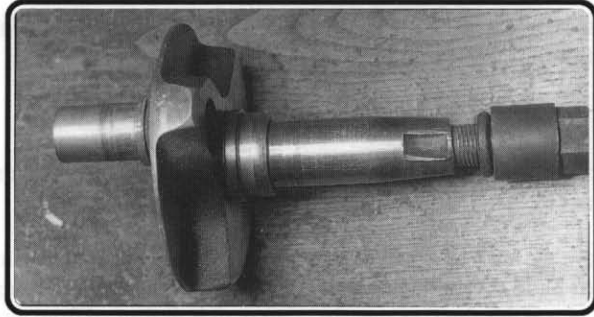

Figure 4 Widened woodruff slot
- 6.4. Check the tapered shaft and armature taper for scoring, burrs and smoothness. Check the fit of the woodruff key in the slot on the crankshaft. Sometimes backfiring of the engine can widen this slot. See Figure 4. In the case of a damaged crankshaft, any machine shop can "mill" another slot on the other side of the crankshaft.